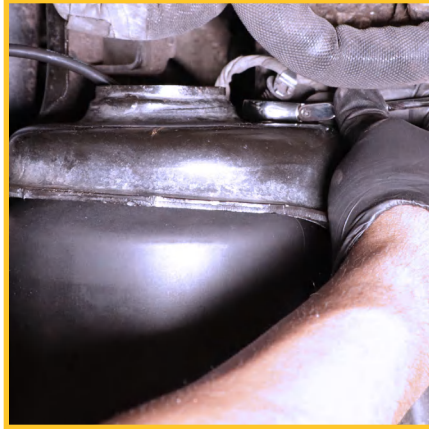

FIGURE 17
2. Install and tighten the top and bottom mount nuts on the air spring studs. Tighten to 17 ft-lbs. (FIGURES 17, 18)